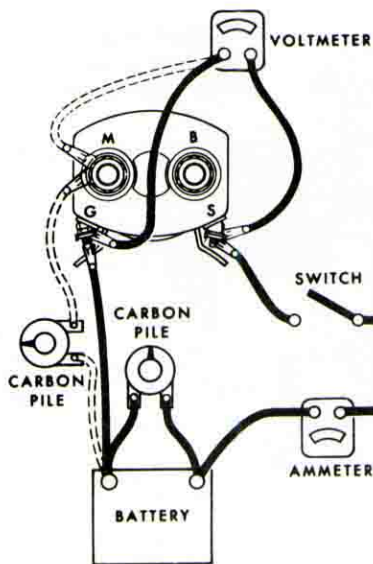

Figure 14—Checking solenoid hold-in and pull-in windings. (Note: Terminal locations may vary.)
winding (Fig. 14). Use the carbon pile to decrease the battery voltage to the value specified in Service Bulletins 1S-180, 1S-186, or 1S-187, and compare the ammeter reading with specifications. A high reading indicates a shorted or grounded hold-in winding, and a low reading excessive resistance. To check the pull-in winding connect from the solenoid switch terminal (S) to the solenoid motor (M or MOT) terminal.